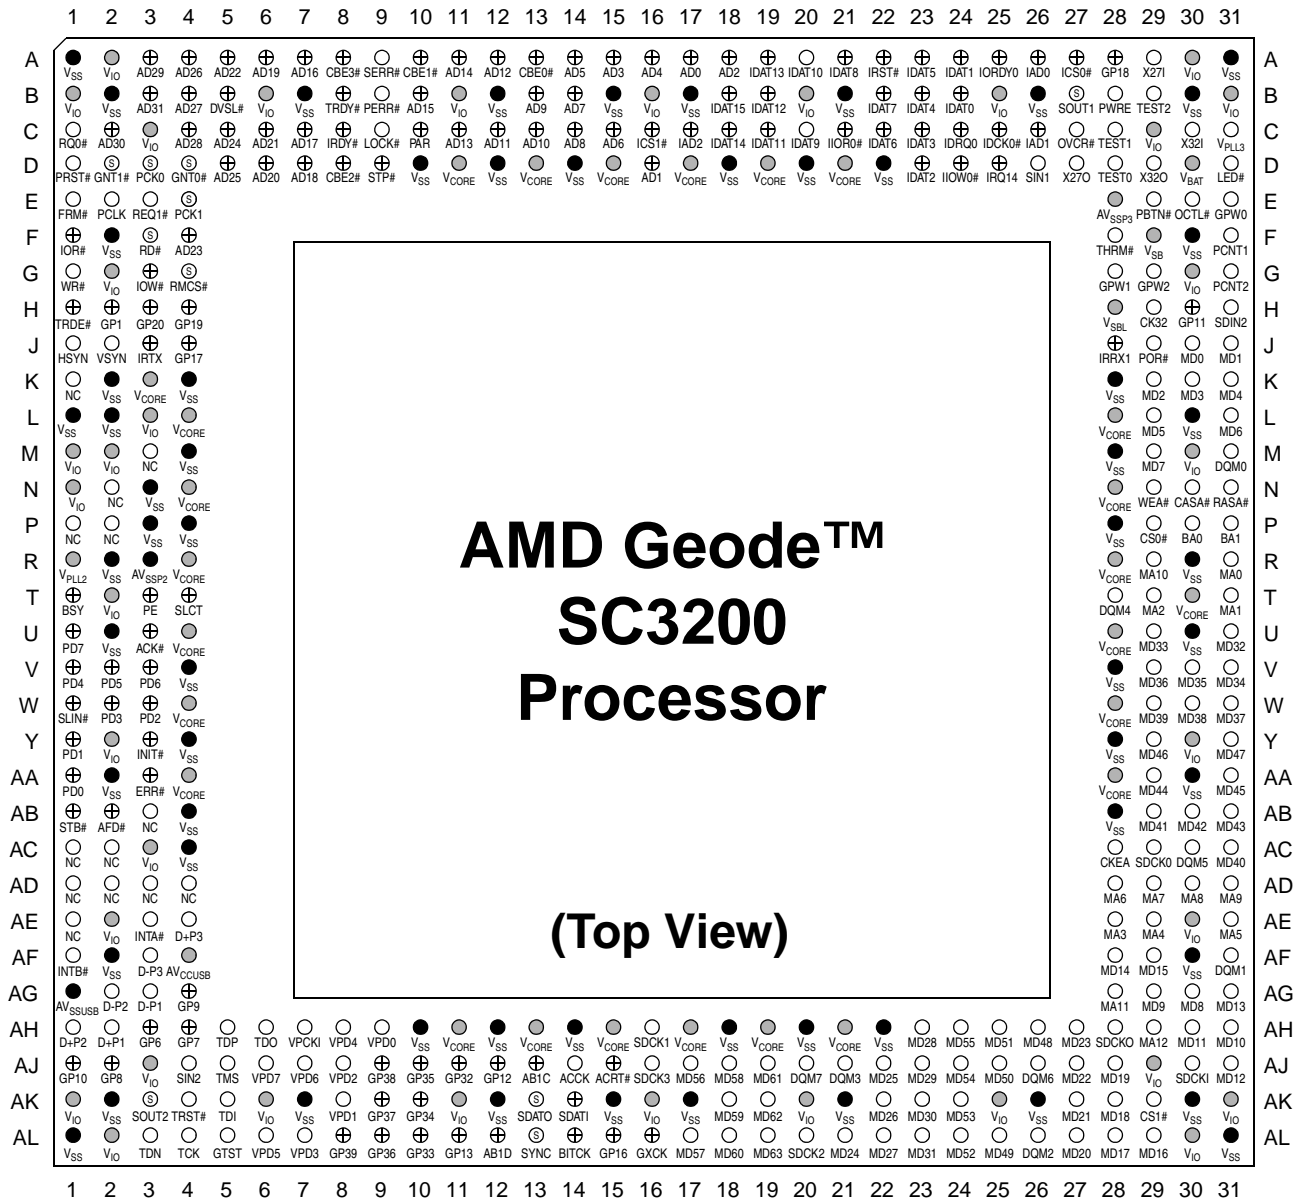

Figure 3-2. 432-EBGA Ball Assignment Diagram
- Figure 3-2 on page 28 and Figure 3-3 on page 42: Illustrations of EBGA and TEPBGA ball assignments.